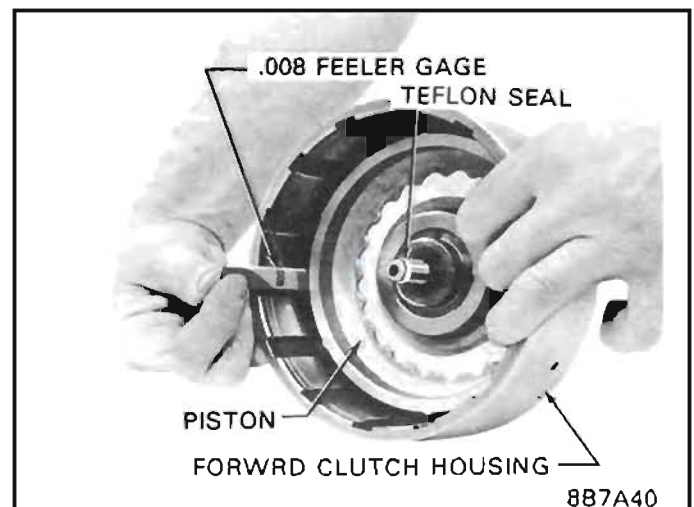

Figure 67 Installing Forward Clutch Piston
2. Install the forward clutch piston assembly using a thin feeler gage. See Figure 67.